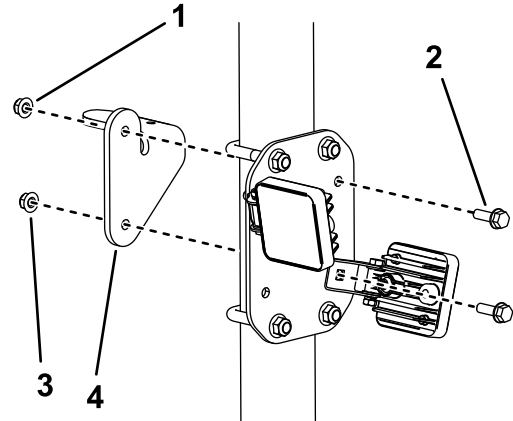

Figure 2
2. Assemble the beacon to the bracket and install the beacon assembly as shown in Figure 2.